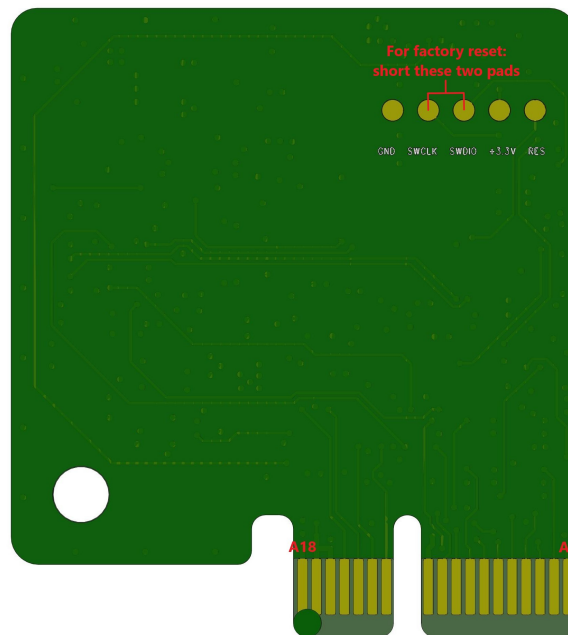

Figure 2: Bottom side of TMCM-0930 with marked copper pads A1-A18
2. Short SWCLK and SWDIO pads of programming pads on bottom of pcb (see figure 2).